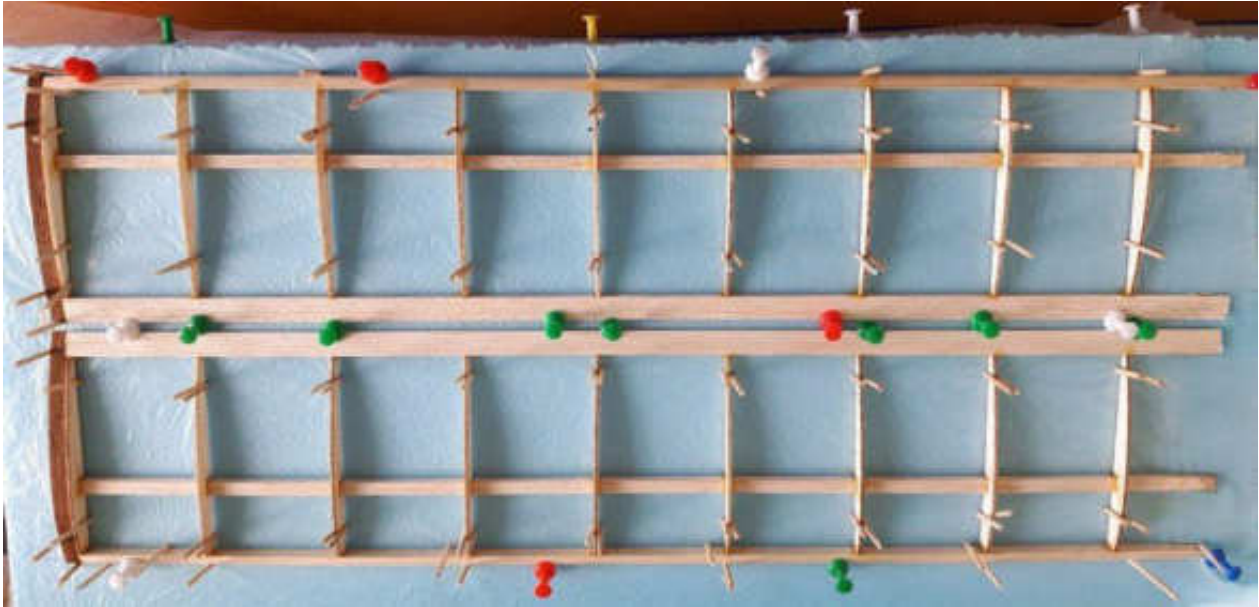

Figure 6: Both wings after they have been glued.
- Repeat steps 1-5 to create another wing which is a mirror image as shown in Figure 6.